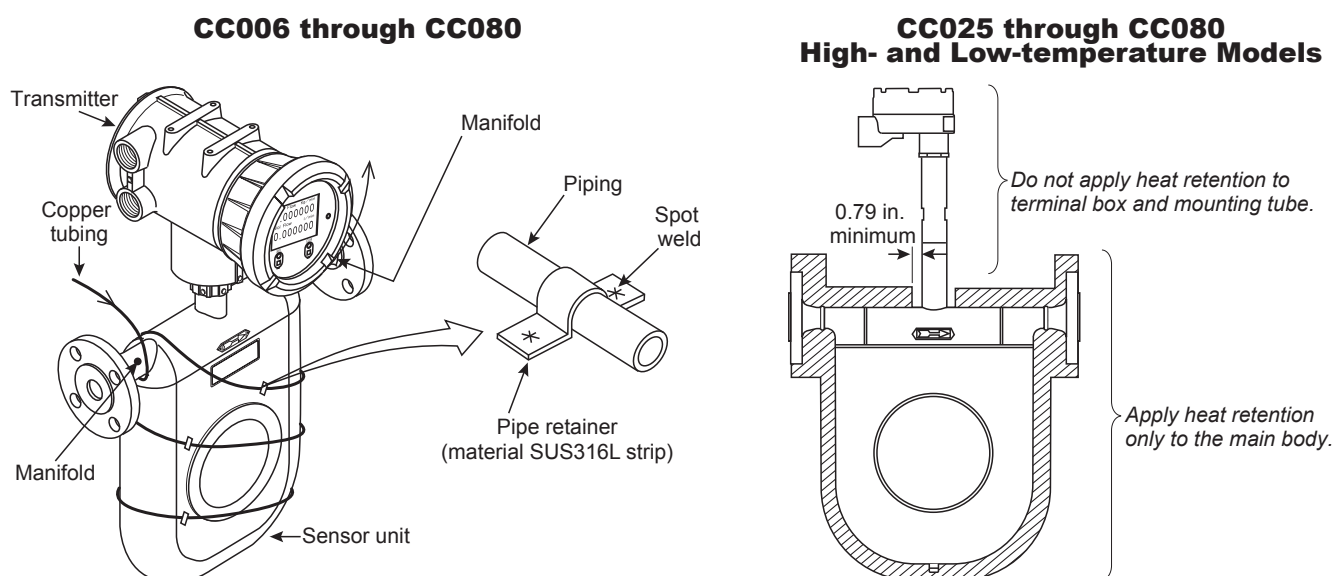

Figure 5.18—Heat and cold retention via copper tubing and pipe retainers (CT Series CC006 to CC080 meters)
- When installing heat retaining or cold retaining material on the sensor unit, apply heat retention or cold retention to only the main body. As the fluid passes through the sensor case, heat retention or cold retention on the mounting tube and terminal box has no effect. In the case of high- and low-temperature explosion-proof types, do not install heat retaining or cold retaining material within a distance of 0.79 in. from the mounting tube so that the terminal box is protected against heat (or cold) (see Figure 5.18, page 48).